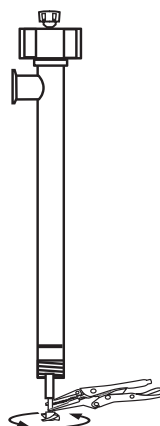

Figure 4
4. While holding the drive shaft with pliers (Factory suggests grip-locks to avoid scarring shafts) remove the impeller (see Figure 4).